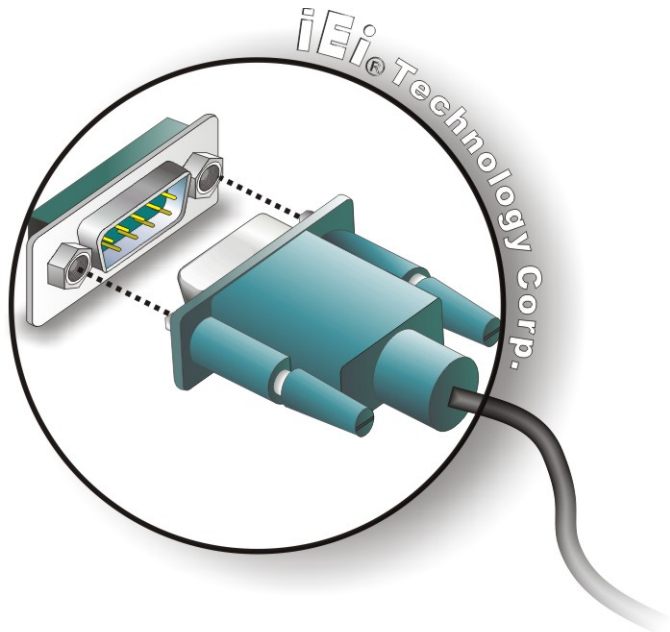

Figure 3-30: RS-422/485 Serial Device Connector
Step 2: **Insert the serial connector.** Insert the DB-9 connector of a serial device into the DB-9 connector on the external peripheral interface. See **Figure 3-30**.